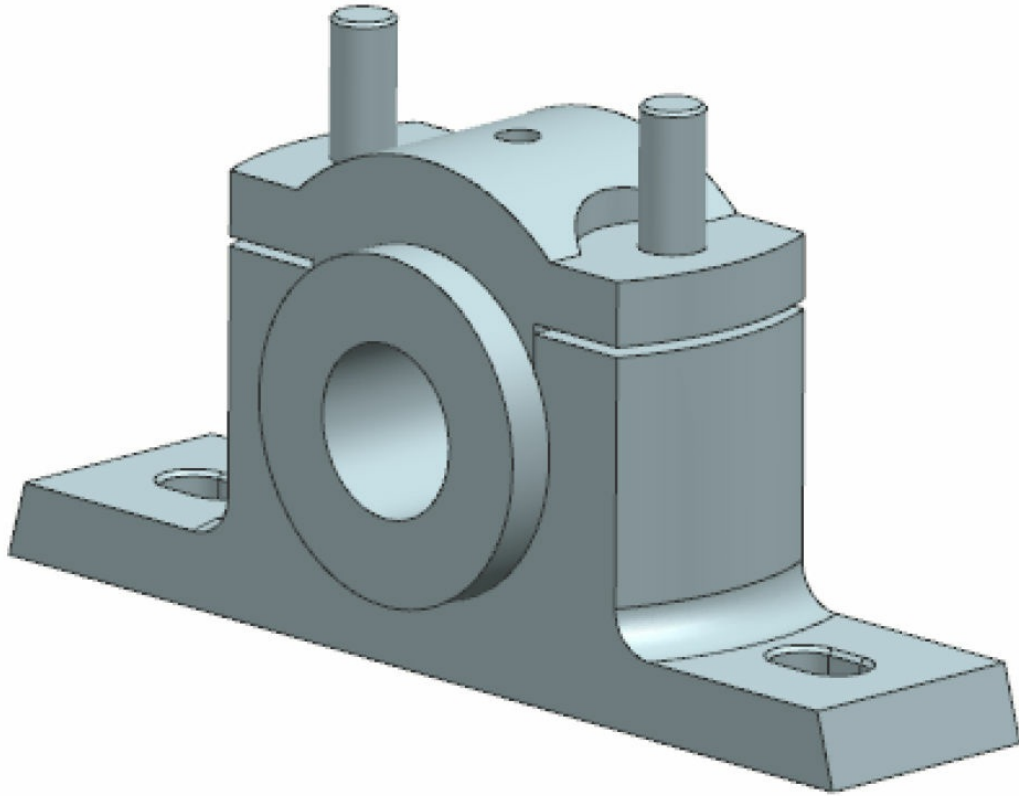

Figure 8-97 The assembly after assembling the Bolts
9. Similarly, assemble the second instance of the Bolt on the other side. The assembly after assembling the bolts is shown in Figure 8-97.